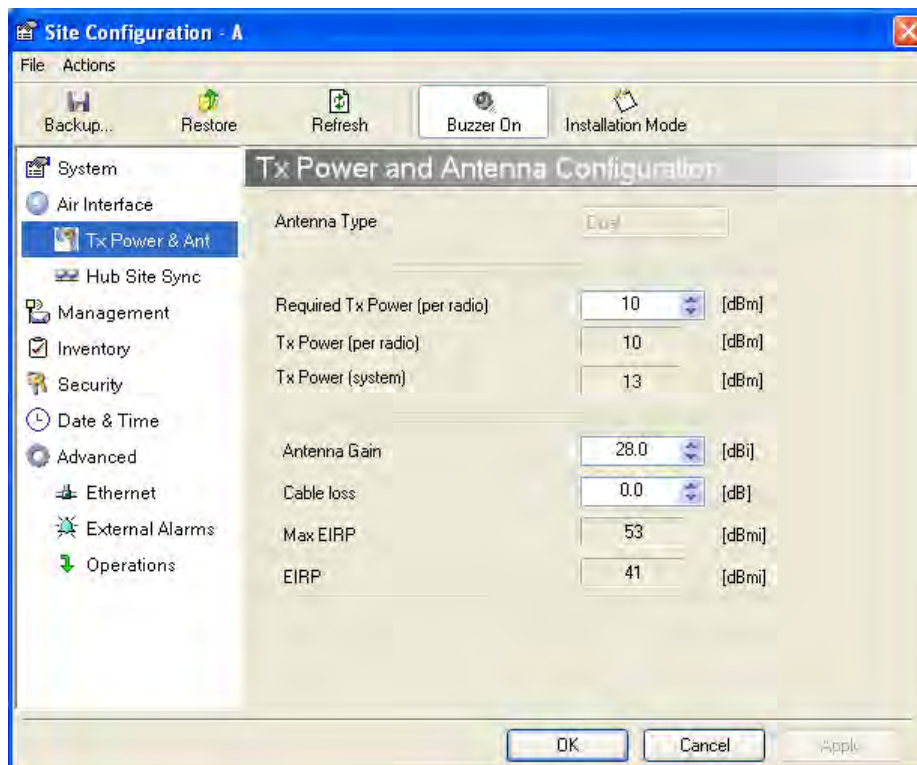

Figure 6-3: Changing the Transmit Power
2. Choose Air Interface (see figure 6-3).